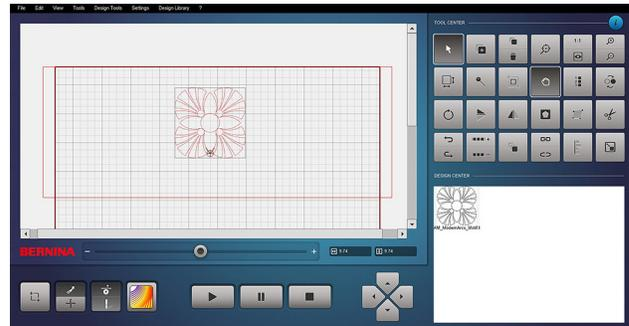

Fig. 32
4. Move the design by moving the Sewhead while Grab and Drop is active (Fig. 32).